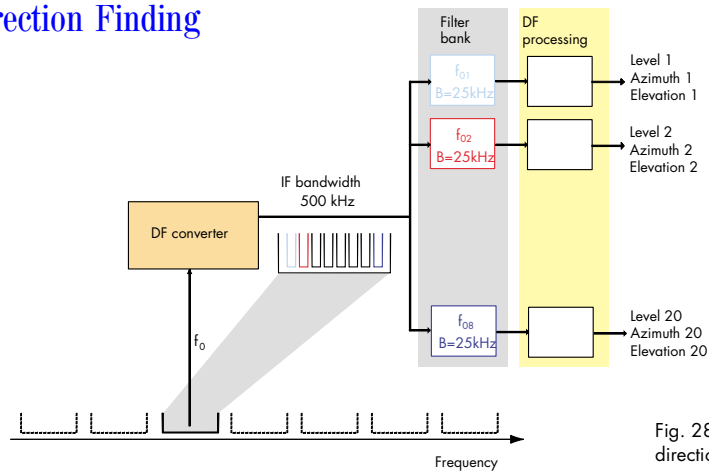

Fig. 28: Multichannel direction finder
**Multichannel direction finders** are implemented with the aid of digital filter banks (FFT and polyphase filters). Depending on the outlay, these direction finders allow quasi simultaneous direction finding in a frequency range from some 100 kHz up to a few MHz. Scan mode is additionally provided to cover larger frequency ranges (Fig. 28).